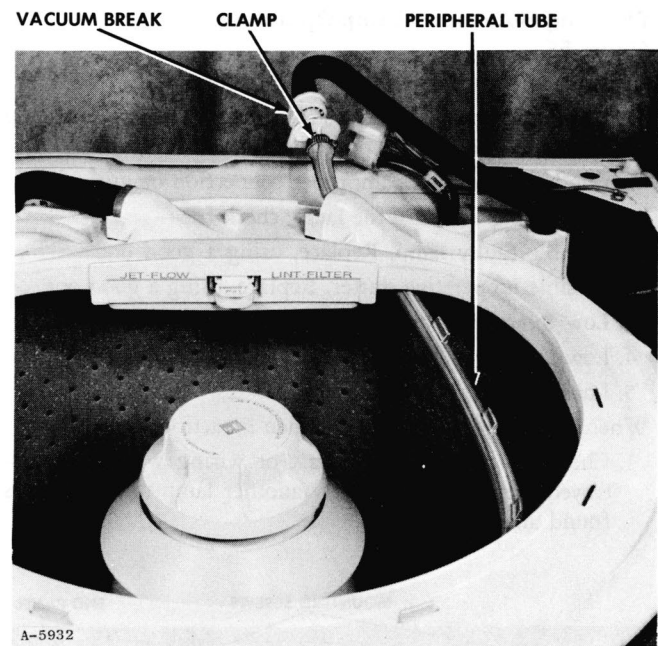

Figure 59
VACUUM BREAK REMOVAL—FIGURE 59.
4. Release vacuum break from sub top and pull enough of the Jet Circle fill tube to allow the clamp to be removed. Figure 59.